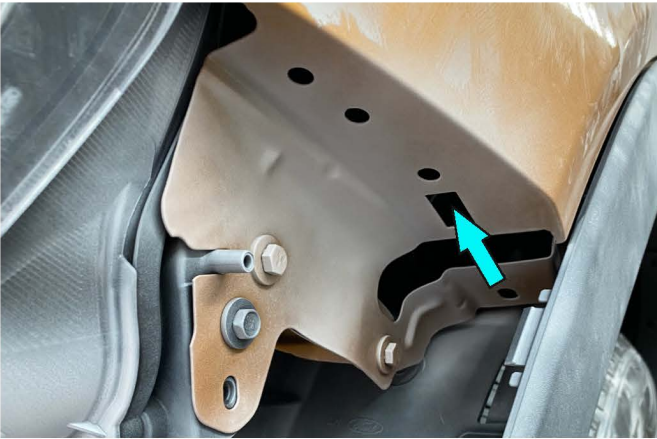

Fig.26
26. Install insert nuts M6 with 2 nuts (item 7) on both sides of the vehicle (fig.26).